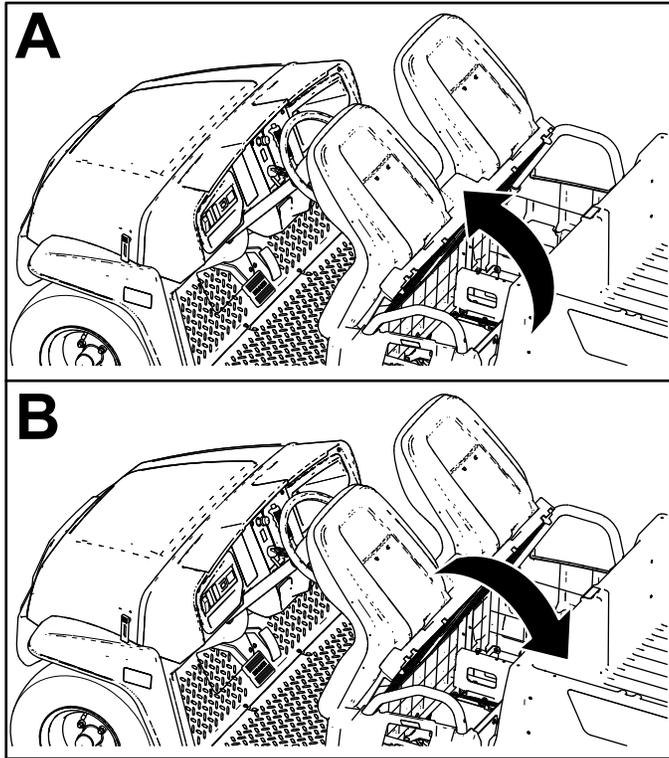

Figure 24
To raise the seat assembly, push the seat assembly forward until it rests on the steering wheel (Figure 24).
To lower the seat assembly, push the seat assembly rearward until it seats back into the original position (Figure 24).
1. Push the seat assembly forward to the raised position (Figure 24).